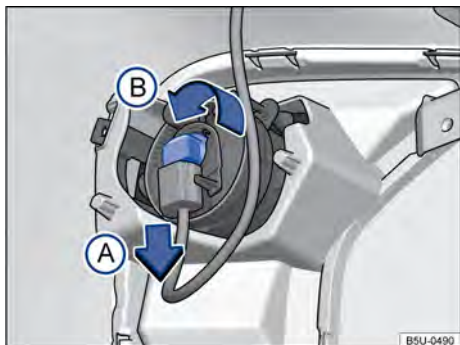

Fig. 171 Behind the front bumper: access to the fog light bulb.
- ① Observe and follow the instructions on the checklist → page 188.
- ② Disconnect the bulb connector → **Fig. 171** in the direction of the arrow [A] and press the connector securing lock simultaneously.
- ③ Turn the bulb socket → **Fig. 171**, in the direction of the arrow [B], and remove it
- ④ The fog light bulb is secured in the holder; the entire bulb/holder assembly must be replaced
- ⑤ Replace the defective bulb with a new bulb of the same type.
- ⑥ Insert the new bulb/socket set into the housing.
- ⑦ Press the socket down as far as possible and turn clockwise.
- ⑧ Ensure that the socket is properly secured.
- ⑨ Fit the bulb connector.